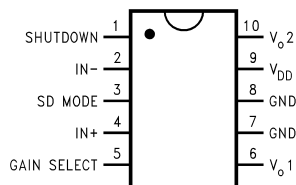

Figure 2. Top View
- (1) All voltages are measured with respect to the ground pin, unless otherwise specified.
- (2) *Absolute Maximum Ratings* indicate limits beyond which damage to the device may occur. *Operating Ratings* indicate conditions for which the device is functional, but do not guarantee specific performance limits. *Electrical Characteristics* state DC and AC electrical specifications under particular test conditions which guarantee specific performance limits. This assumes that the device is within the Operating Ratings. Specifications are not guaranteed for parameters where no limit is given, however, the typical value is a good indication of device performance.
- (3) The LM4665 in the micro SMD package (ITL) has an operating range of 2.7V - 3.8V for 8 Ω speaker loads. The supply range may be increased as speaker impedance is increased. It is not recommended that 4 Ω loads be used with the micro SMD package. To increase the supply voltage operating range, see Figure 2 and INCREASING SUPPLY VOLTAGE RANGE in the **Application Information** section for more information.
- (4) Typical specifications are specified at 25 $^\circ C$ and represent the parametric norm.
- (5) Tested limits are guaranteed to National's AOQL (Average Outgoing Quality Level).
- (6) Datasheet min/max specification limits are guaranteed by design, test, or statistical analysis.